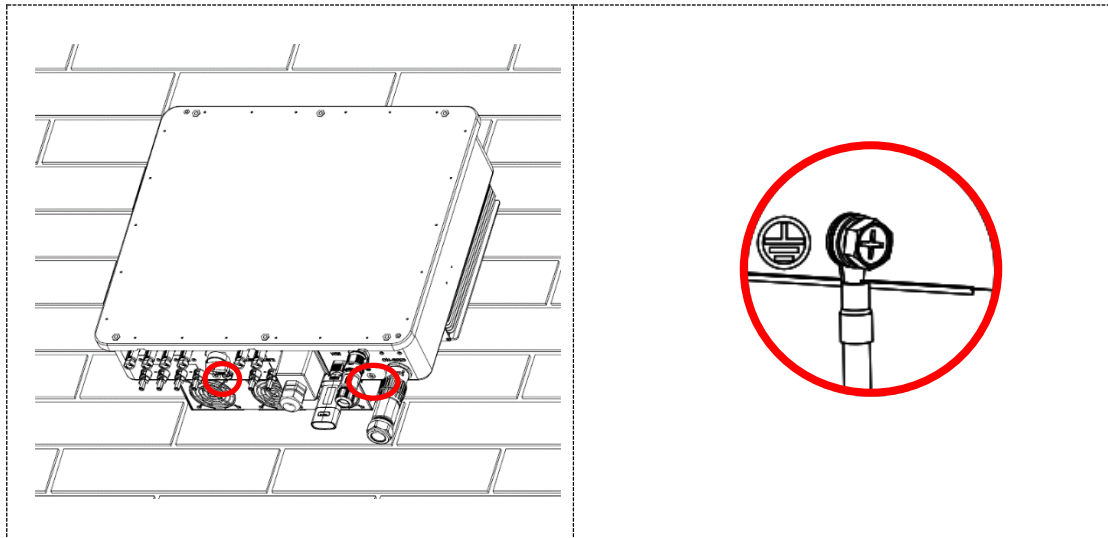

Figure 6.5 Schematic diagram of protective grounding
Step 3: Fix the OT terminal with M6 screws at the position shown in Figure 6.5 ③, and the locking torque is recommended to be 5N · m.